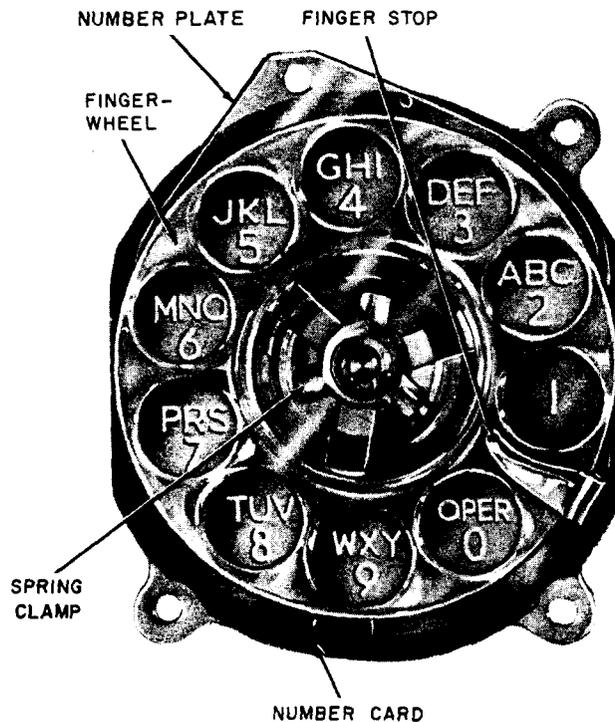

Fig. 1—10-Type Dial, Front View
- 2.01** The 10-type dial (Fig. 1, 2, 3, and 4) has a plastic 2-3/8 inch diameter fingerwheel having finger holes on a 10-1/3 division spacing instead of the standard 12 division spacing of the 5- through 9-type dials.